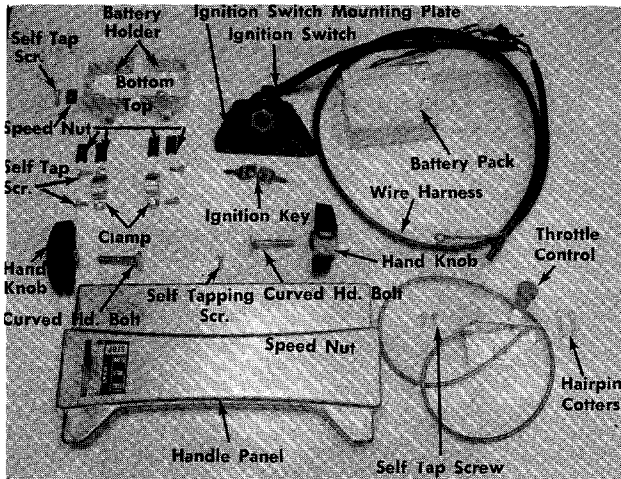

FIGURE 1. PARTS PROVIDED
2. Place a speed nut on bottom of one of the battery holders. See figure 1.